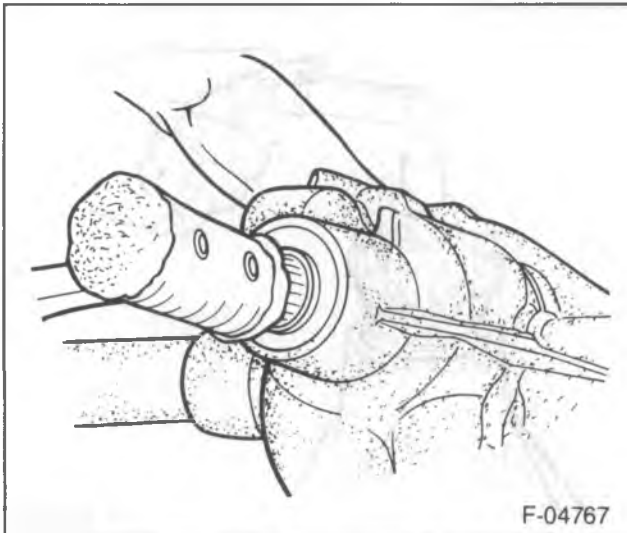
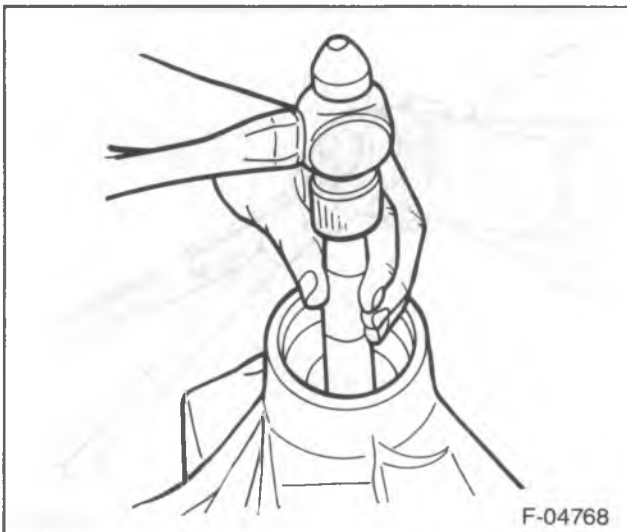
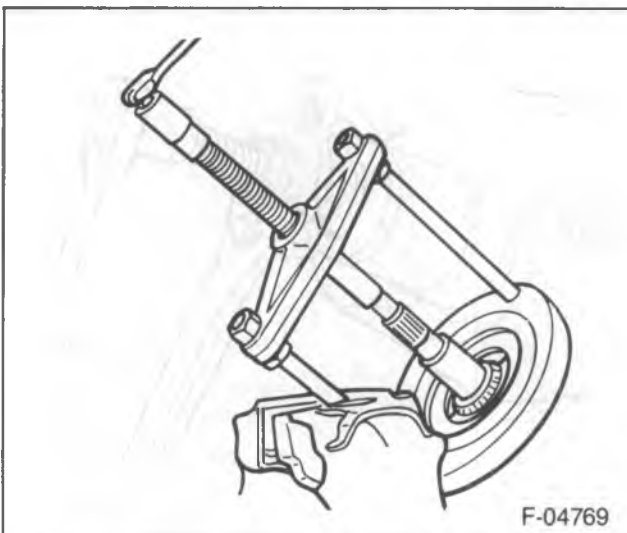

Figure 14—Removing the Pinion
Figure 15—Removing the Bearing Cups
Figure 16—Removing the Pinion Inner Bearing
- 18. Pinion (2) from the carrier using a rawhide hammer to tap the pinion (figure 14).
- 19. Carrier cover (14) and the pinion (2).
- 20. Pinion preload shims (6).
- 21. Pinion seal (9).
- 22. Pinion outer bearing (7) and oil slinger (8).
- 23. Bearing cups (3) and (7) from the axle housing using a hammer and a punch (figure 15).
- 24. Pinion adjusting shims (4) and baffle (5).
- 25. Pinion inner bearing (3) using J 29721 and J 29721-70 (figure 16).